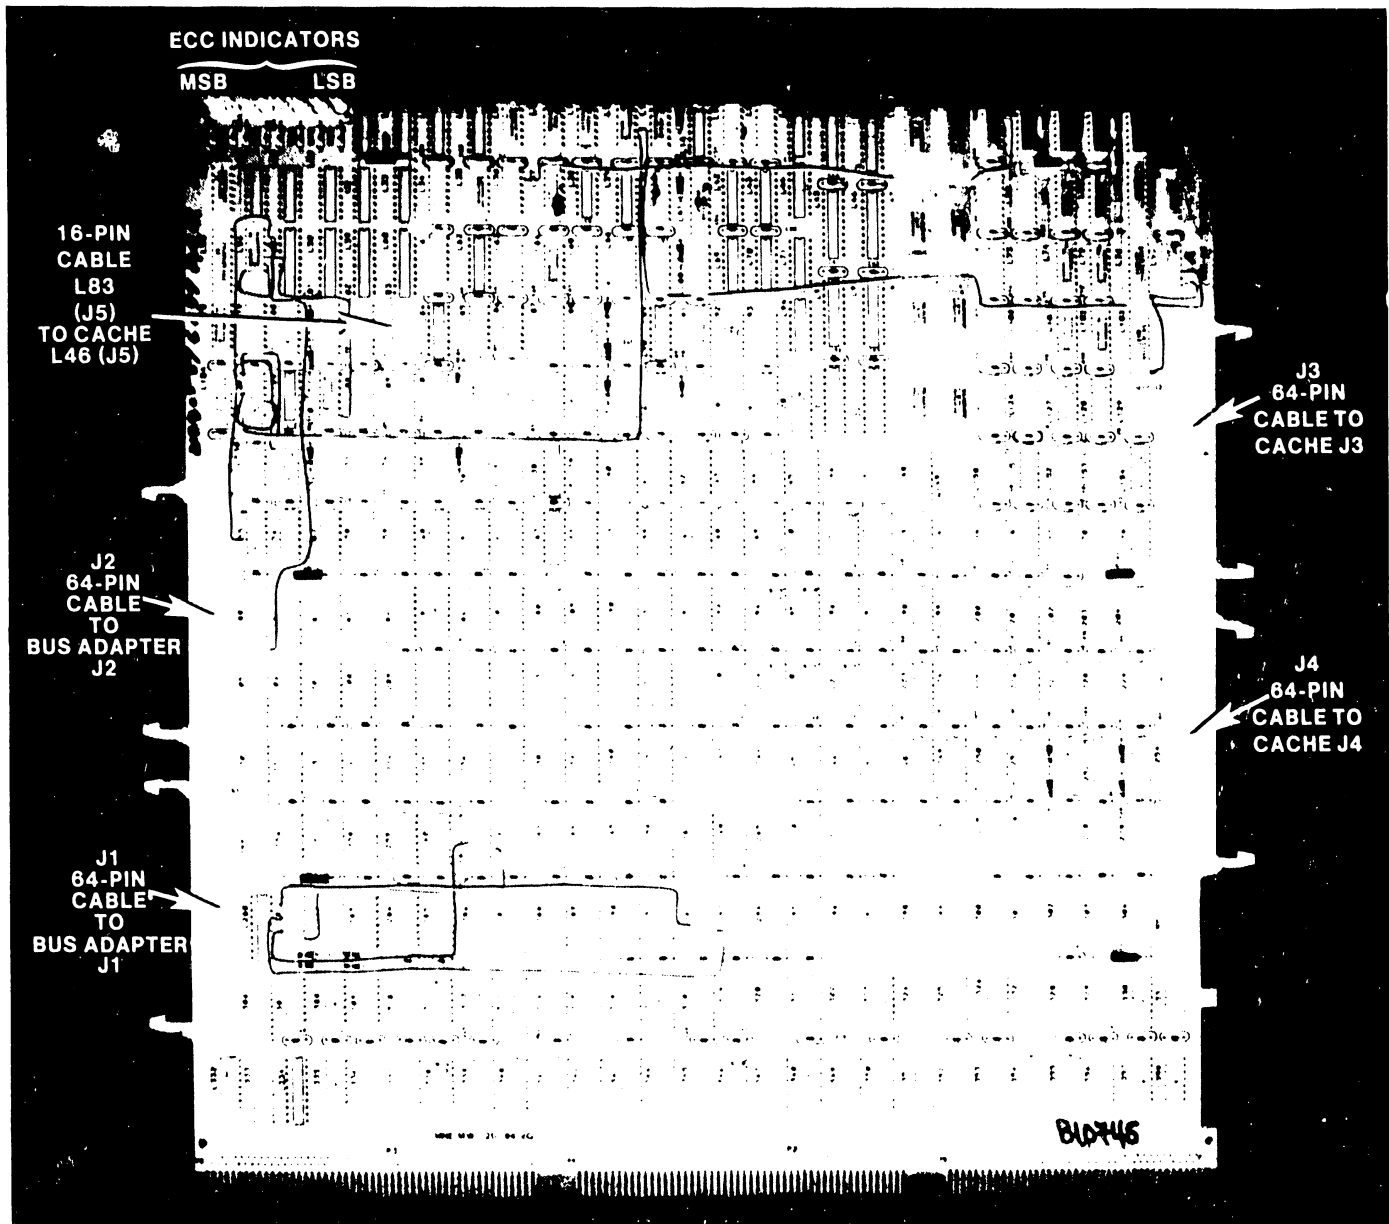

Figure 5-15A. 210-7605 VS-85 System Bus Controller Board
1. If the system has a System Bus Controller board (figure 5-15A and 5-15B) in Motherboard slot #5, lower the fan assembly as described in paragraph 5.3.6.30. Remove the two Phillips screws securing the hinged cover over the fan safety screen inside the cabinet. Raise the cover, remove the screen, and turn the vertically mounted air flow baffle to the right. This allows access to the connectors on the rear of the circuit boards.